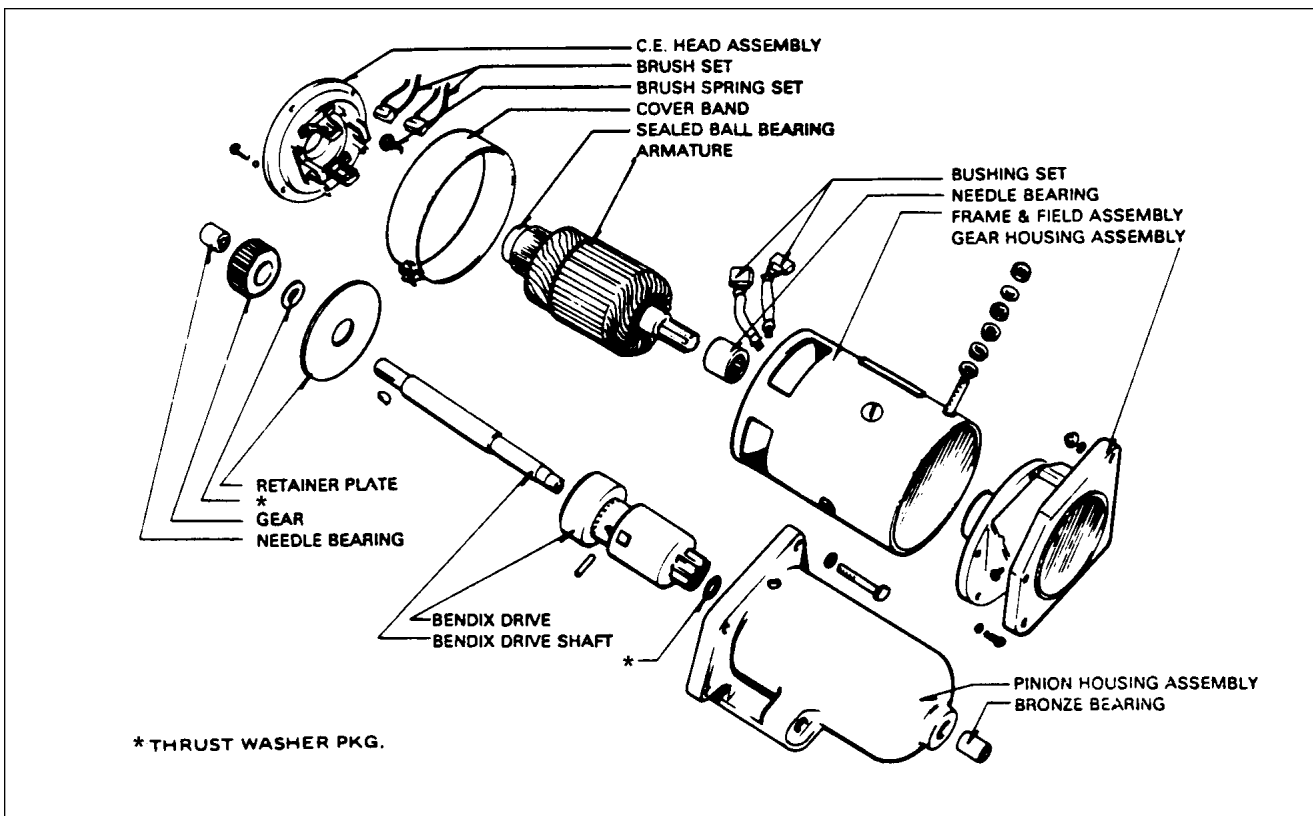

Figure 80-1. Exploded view of Gear Reduction Starting Motor
A. DESCRIPTION AND OPERATION (Refer to figure 80-1.)